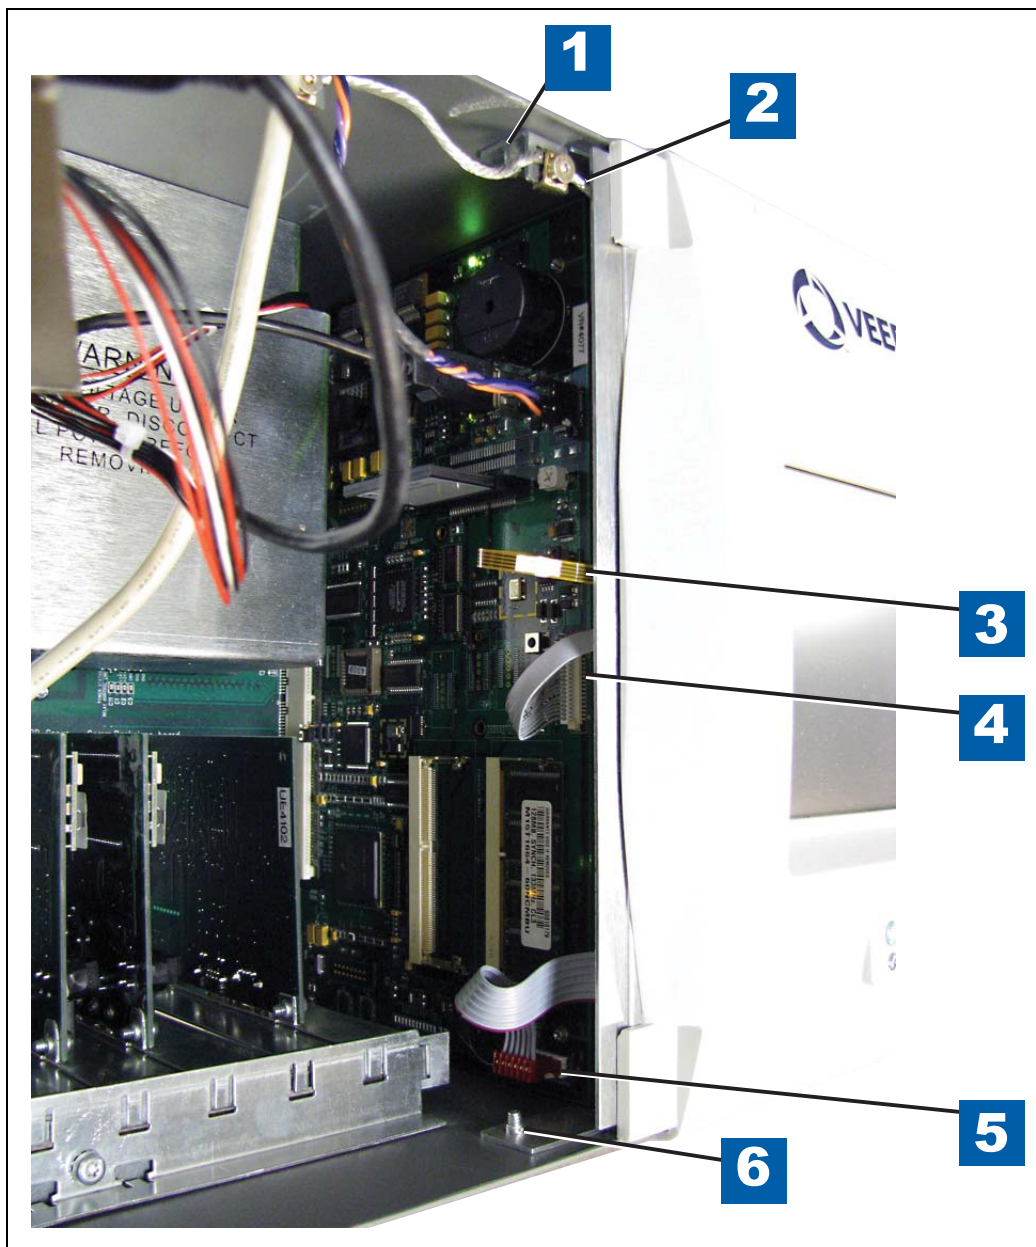

Figure 7. Removing The Three Display Panel Cables
4. Unplug the Display panel's Touchscreen control cable (3) Data cable (4), and LED backlight cable (5) connectors from the CPU board (see Figure 7).
**LEGEND FOR NUMBERED BOXES IN Figure 7**
6. Remove the top and bottom Display door hinge shoulder screws and remove the door (items 1 and 6 in Figure 7). Retain the two hinge shoulder screws for the TLS-450PLUS upgrade door.